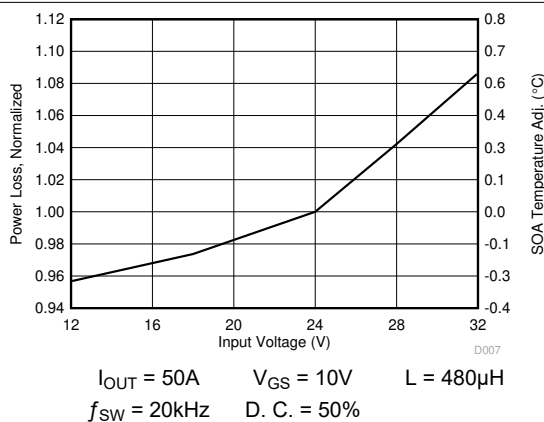

Figure 4-5. Normalized Power Loss vs Input Voltage
- Normalized power loss for input voltage \approx 1.09 (図 4-5)
- SOA adjustment for input voltage \approx 0.6°C (図 4-5)